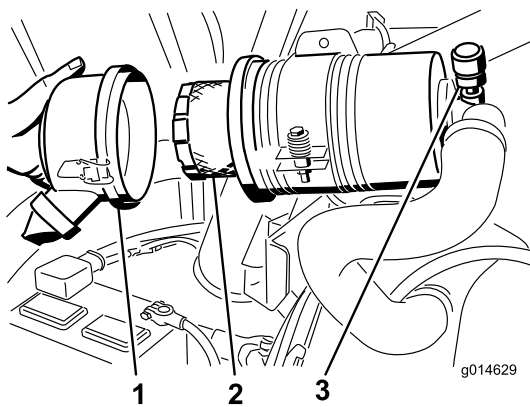

Figure 51
3. Remove and replace the filter (Figure 51).